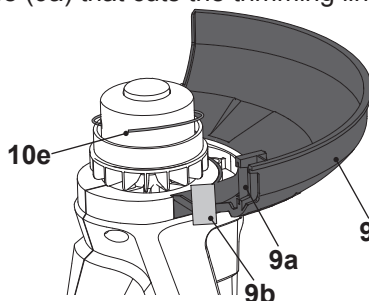

Fig. 6
The guard (9) protects the operator against thrown objects during operation. It is equipped with a knife (9a) that cuts the trimming lines (10e) (Fig. 6).